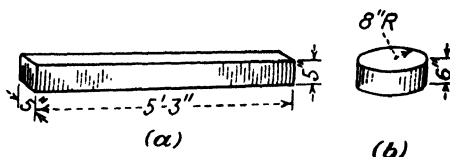

Fig. 303.
29. Find the volume in cubic inches, of each solid in Fig. 303.